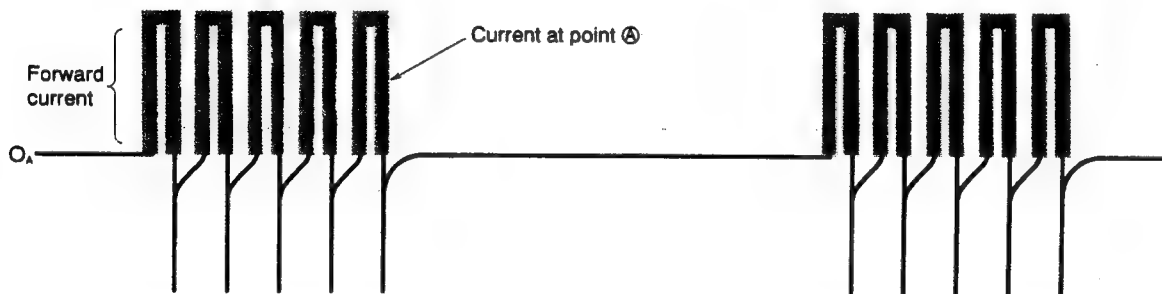

Fig. 7-2 Forward Current Waveform at Point A
- When pin ②③ of the micro computer goes "HI" → "LO", a photocoupler between PQ2 pins ① and ② turns on and current flows to terminal ③ → R401 → PQ2 → R404 → power module's Bu+ terminals → Eu+ terminals → D402 → D401 → terminal ① and drives the upper arm transistors. (Fig.7-2)
- As described in the rotor magnetic pole position detecting circuit, the upper arm drive circuit supplies current to the bases of the transistors on the power module's positive ⊕ side which turn on or off according to the position detection signals. The signals according to the position detection signals are output from pins ②③, ②④ and ②⑤ of the micro computer and are input to pins ② of photocouplers PQ2 - PQ4.